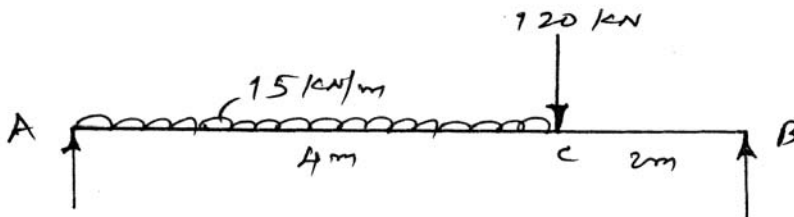

Fig. No. 1 [Q. 3(c)]
- c) Figure No. 1 shows a simply supported beam carrying loads. Draw shear force diagram and BMD.